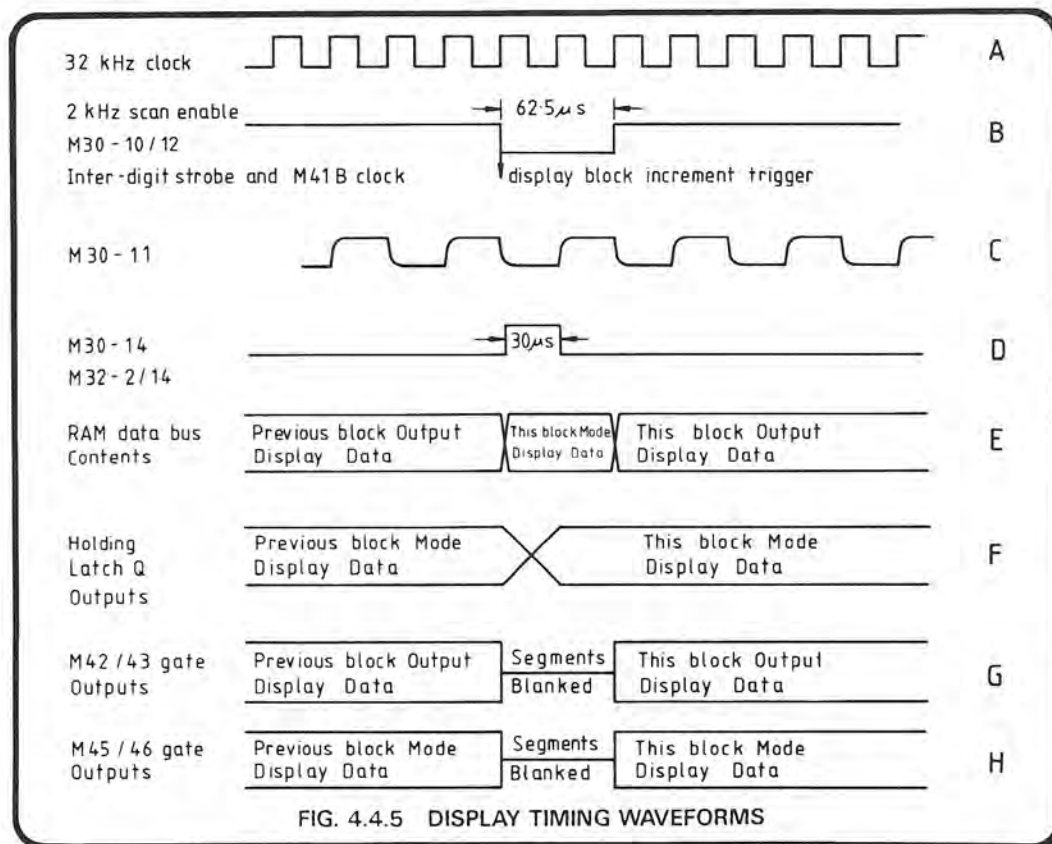

FIG. 4.4.5 DISPLAY TIMING WAVEFORMS
4.4.4.4 Display Timing (Fig. 4.4.5)
The next block is selected during the display master timing pulse (Fig. 4.4.5, Waveform B).